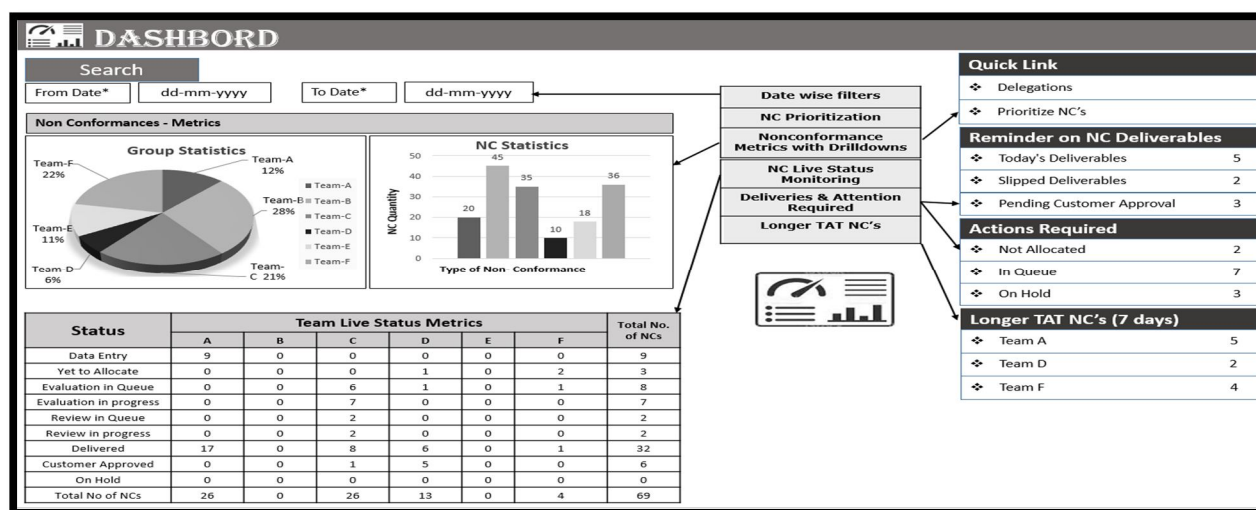

Figure 5: Dashboards Options
- 1) The dashboard gives a quantified holistic picture of Non-conformances across different teams which can be further drilled down to categories of Non-conformances reported. It gives detailed matrices showing the recent Non-conformance executed and live status of ongoing Non-conformances in workflow gates along with options to prioritize based on the criticality to avoid any potential shipment delays. The dashboard can extract the data of any specific team of interest as per the duration of Dates picked. Dashboard screen also has alert tabs showing Non-conformances that exceeded the scheduled target dates of delivery, attention required on any Non-conformance which is on hold for a long time in the specific gate, and also overall longer TAT (Turnaround time) Non-conformances. All these options are part of the Dashboard depicted in Figure 5. The whole dashboard is visible across the customers, vendors and global stakeholders to understand Non-conformance live status in advance and reprioritize to optimize productivity and lead time as per the dependencies. It even helps the project manager to check the red flags and take corrective action to clear roadblocks for the team working on assigned Non-conformance.